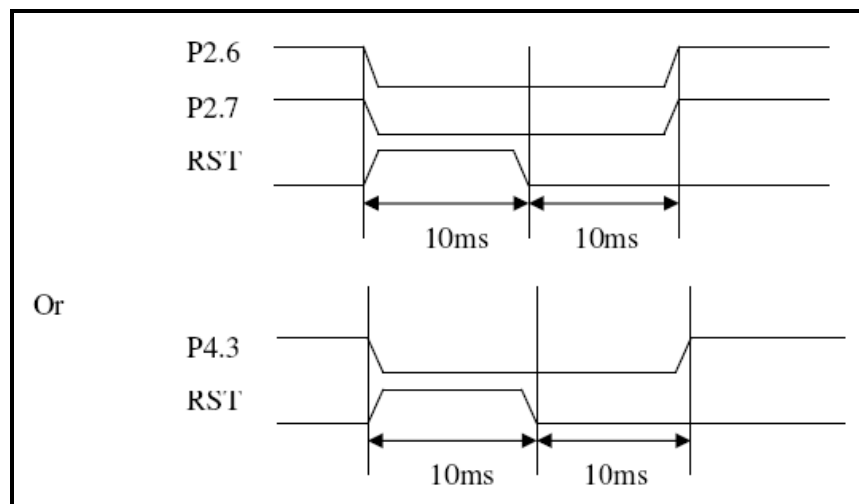

Fig 9-1 : Internal ISP entering by hardware setting
- (1) Blank first data : If the first Flash data is blank (data in address 0000h is FFh), the controller will read it after power on and after identifying it as blank, the program counter will go to the ISP code area.
- (2) Execute the "LJMP" instruction in the program as IAP function.
- (3) By hardware setting: After power on reset, if the hardware finds both Port2[6] and Port2[7] are tied low, or Port4[3] is low, then the program counter will go to the ISP code area. This is shown in Fig. 9-1.